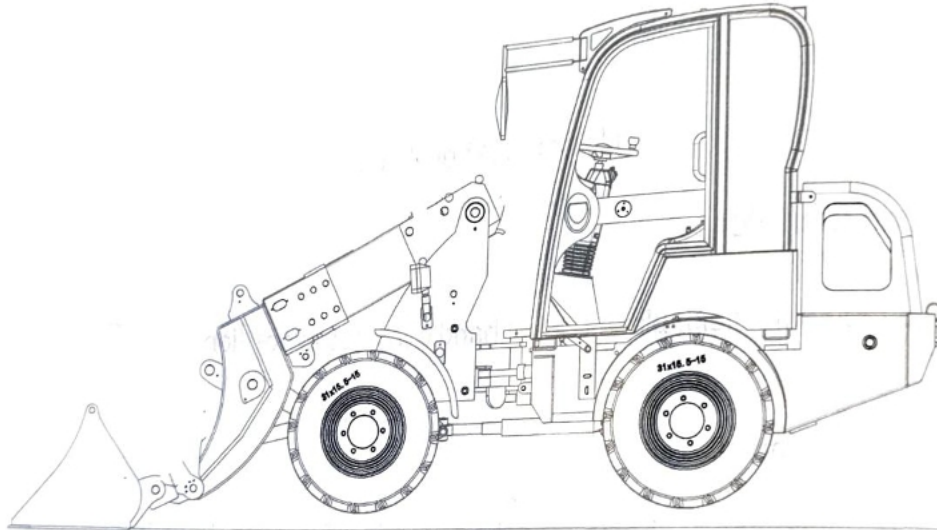

Figure 6-11 Parking status
Step 1: Park loader on a flat field, place control handle in neutral position, stop and pull up parking brake handle, put the blocks before and after the tires, as shown in Figure 6-11;